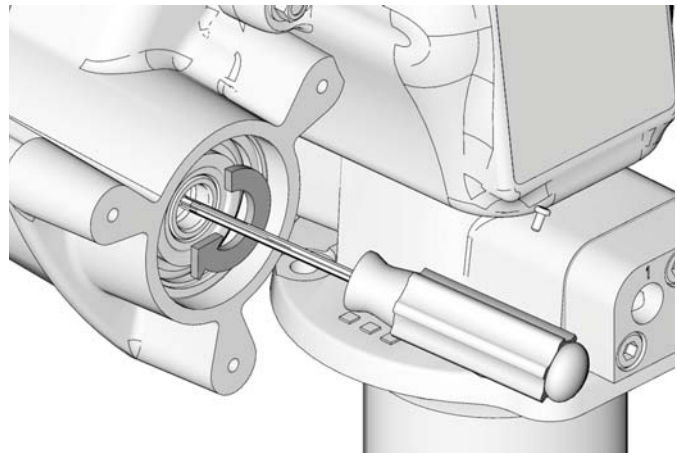

**FIG. 22**
8. Observe location of priming rod (215) and shovel piston (216) inside the shovel cylinder (208) (See Pump Parts, page 38). If the piston is not located in the lowest position inside the cylinder:
- a. Remove screws (125) and washers (124) holding motor (123) to gear box housing (101) (FIG. 22).
- d. Verify o-ring (122) is still in place and correctly seated in motor (123) (FIG. 22).
- e. Reinstall motor (123) to gear housing box (101) using screws (125) and washers (124). Use a wrench to tighten screws securely. Torque to 12 - 14 ft lbs (16 - 19 N.m) (FIG. 22).